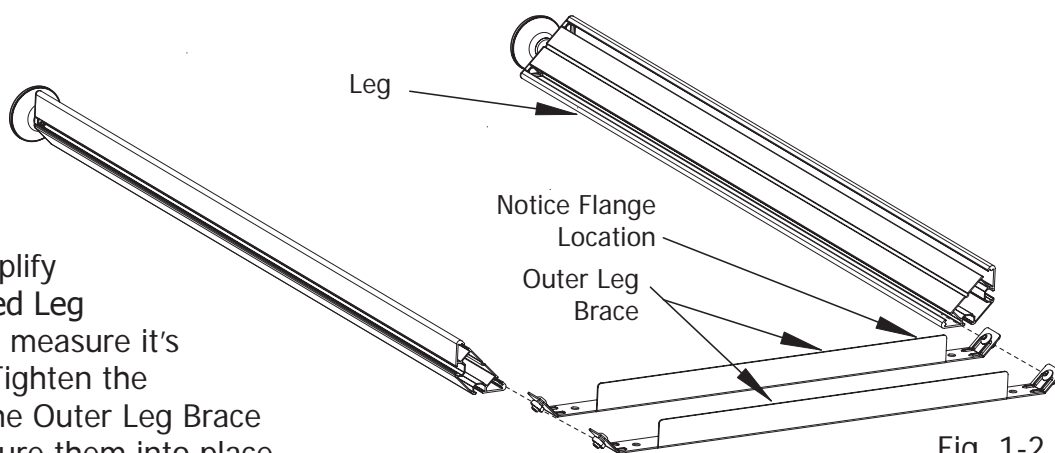
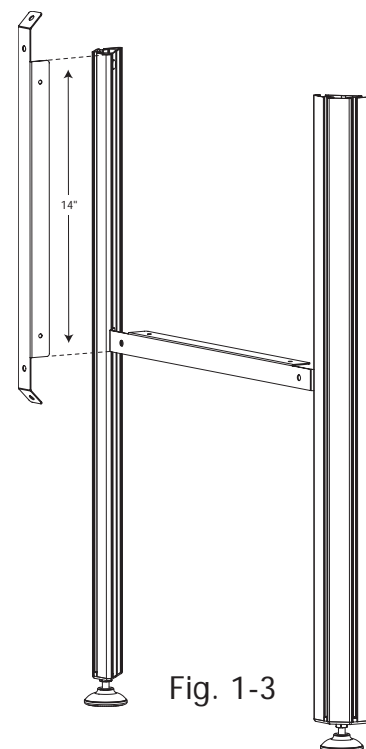

Fig. 1-2
Fig. 1-3
1-3: Slide (2) Outer Leg Braces onto (2) Legs, as shown in Fig. 1-2
1-4: Lay the Leg Assembly down as shown in Fig 1-2 to simplify this step. Adjust the first installed Leg Brace using another leg brace to measure its location, as shown in Fig. 1-3. Tighten the 6mm X 10mm SBHC screws in the Outer Leg Brace with a 4mm Allen Wrench to secure them into place.
4-2: Set the lower Leg Braces at the height previously set in Step 1-4, use a Leg Brace to measure the location. (See Fig.1-3)